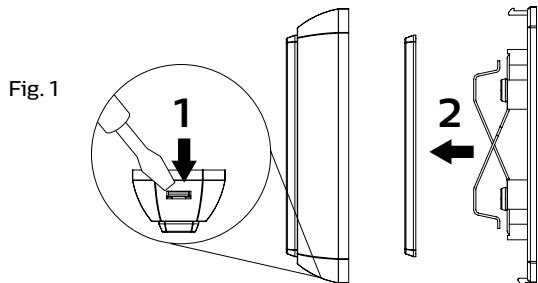

Fig. 1
1. Use a small flat blade screwdriver to release the cover of the push button. (Fig. 1)